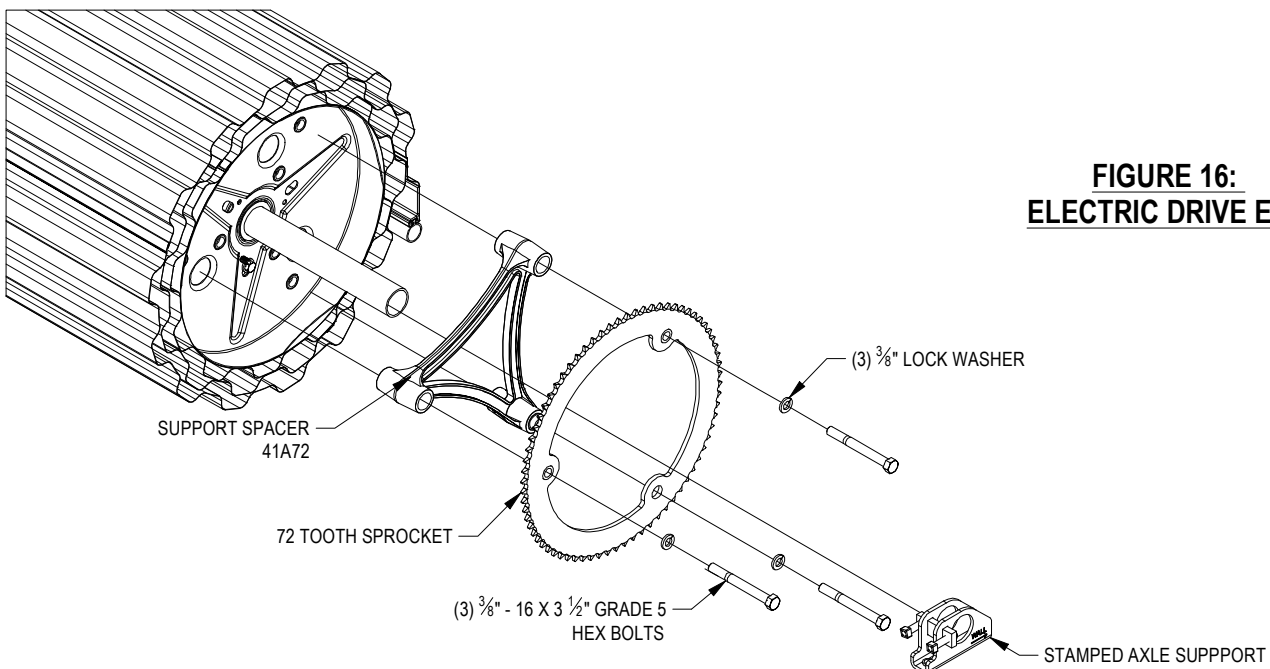

FIGURE 16:
- Attach Support Spacer and Sprocket to drum using three (3) each $\frac{3}{8}$ " Lock Washers and $\frac{3}{8}$ " - 16 X 3 $\frac{1}{2}$ " Hex Bolts
- Slide Stamped Axle Support over axle. **See Figure 16.**